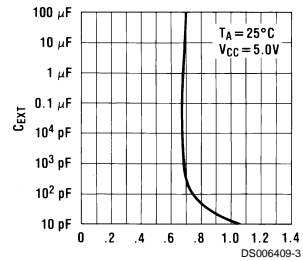

FIGURE 2.
4. The multiplicative factor K is plotted as a function of  $C_X$  for design considerations: (See Figure 2).